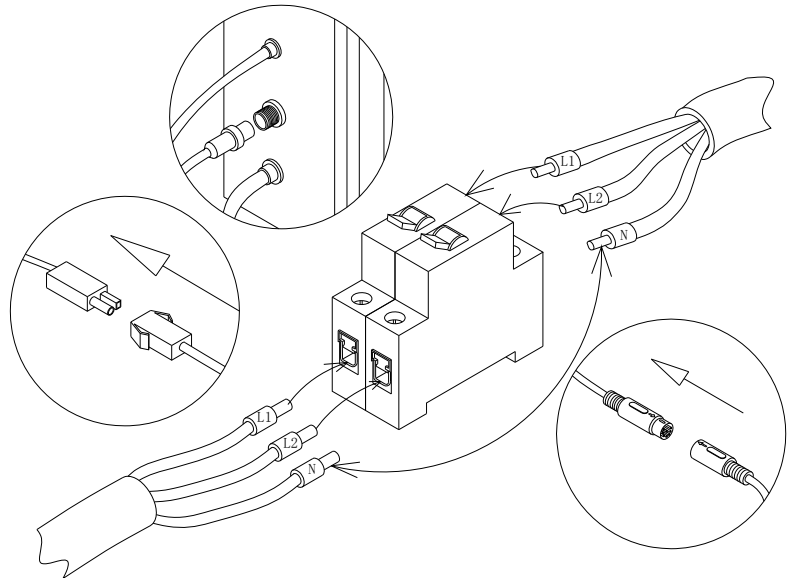

Fig 24
21. Connect the steam generator circuit, according wiring diagram. Connect power cable (not supplied) to the power supply box. Wires marked L1 and L2 are HOT wires, G – ground. Connect yellow wire from the steam generator to the ground. See Fig 24 and Fig 31 for details. (**Use the corresponding electrical connection or plug according to the local power system standards**).